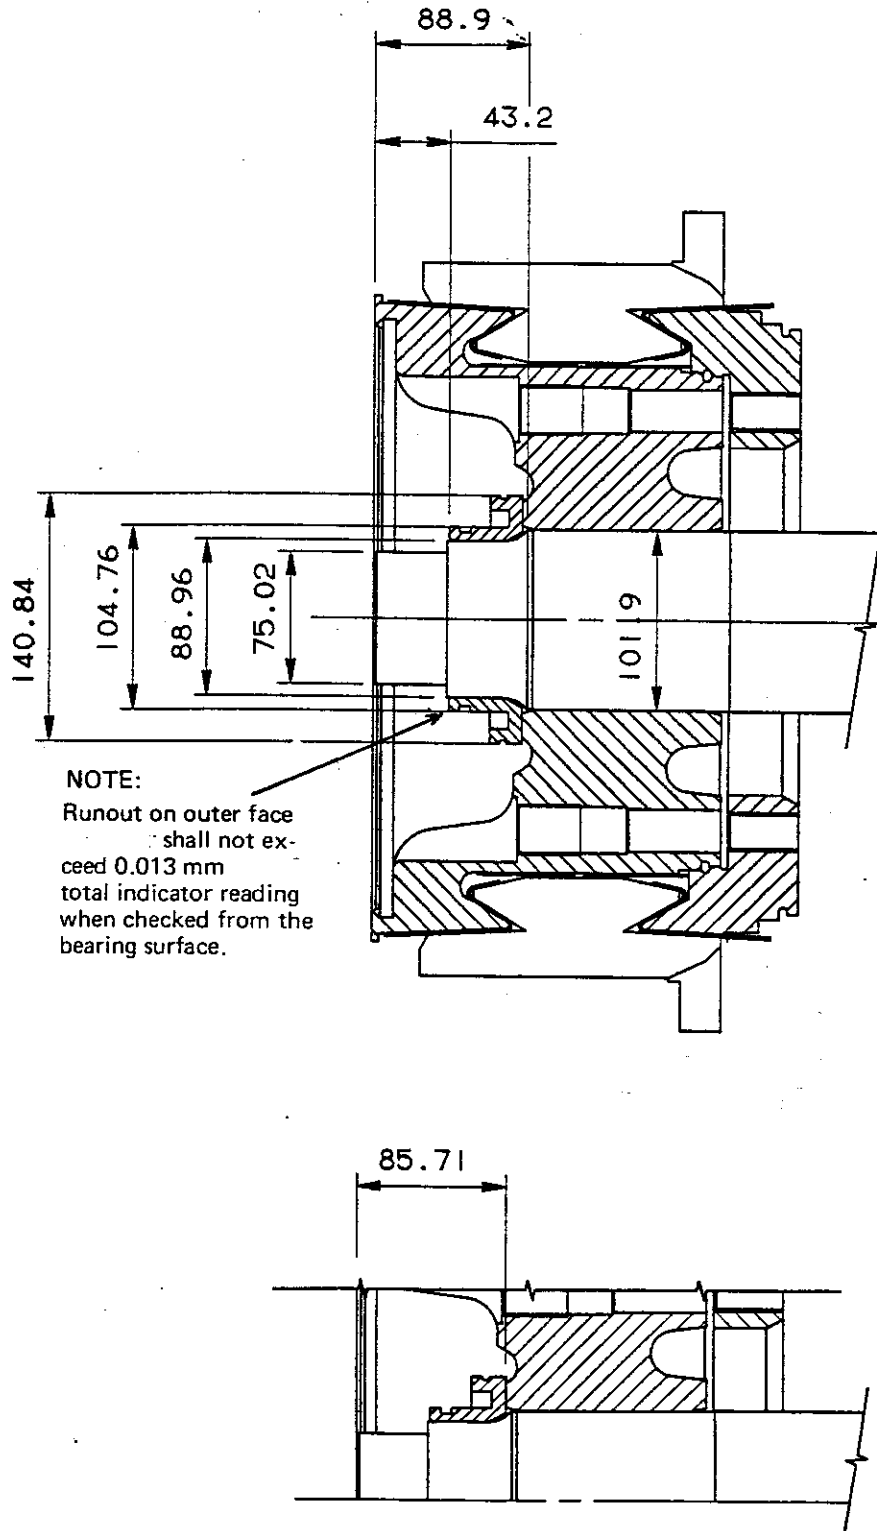

Fig. 3 - Armature Shaft - Commutator End
1. Inspect the commutator end bearing seat diameter, Fig. 3. Bearing seat diameter of a new shaft is 75.02 mm.
2. Inspect the combined commutator end spacer and collar outside diameters, Fig. 3. Outside diameter of the spacer should be between 104.77 to 104.64 mm. Outside diameter of the collar should be between 140.84 mm to 140.71 mm.
4. Check the dimension from the commutator end collar face to the end of the shaft, Fig. 3. The dimension should be